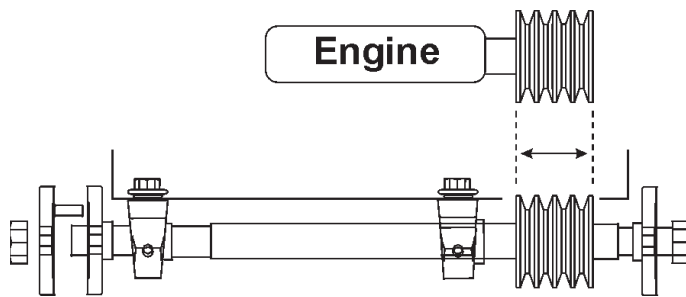

Figure 55. Pulley Alignment
6. Reorient the new pulley on the shaft, and ensure precise pulley alignment by utilizing an accurate straight edge (see Figures 55 and 56).